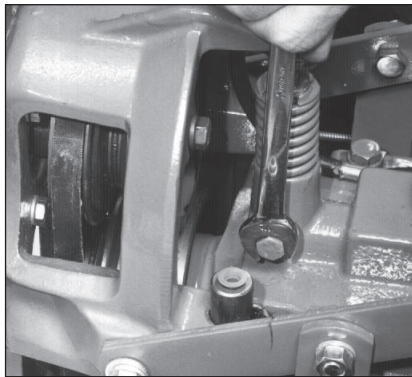

Figure 5-29: Loosen plunger retaining bolt about 3/4-turn, then tighten jam nut against plunger housing.
7. Place a chalk or pencil mark on the top edge of the plunger retaining bolt. Now, while watching the mark, loosen the bolt 3/4-turn (Figure 5-29). Do not exceed a 3/4 turn (this would disengage the bolt